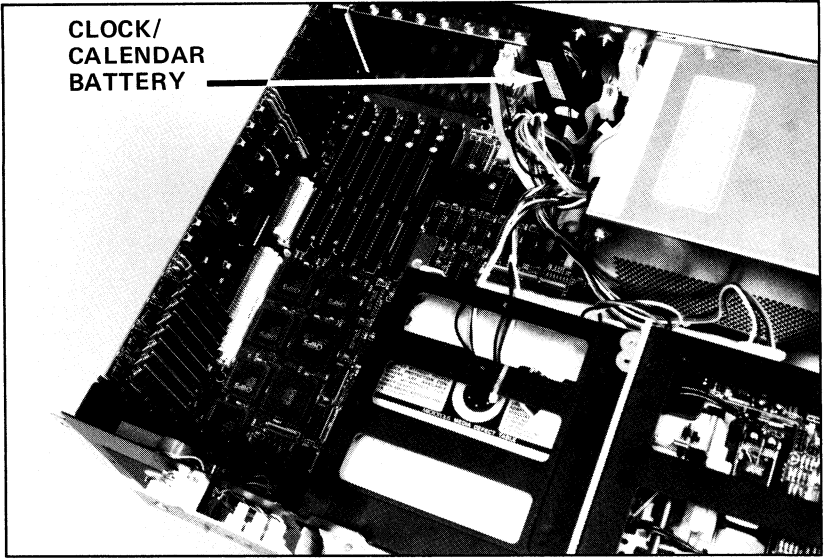

Figure 6-4. Location of the Clock/Calendar Backup Battery
3. Locate the clock/calendar battery (Figure 6-4) on the inside rear panel of the computer. Grasp the battery and pull it away from the hook and loop fastener.